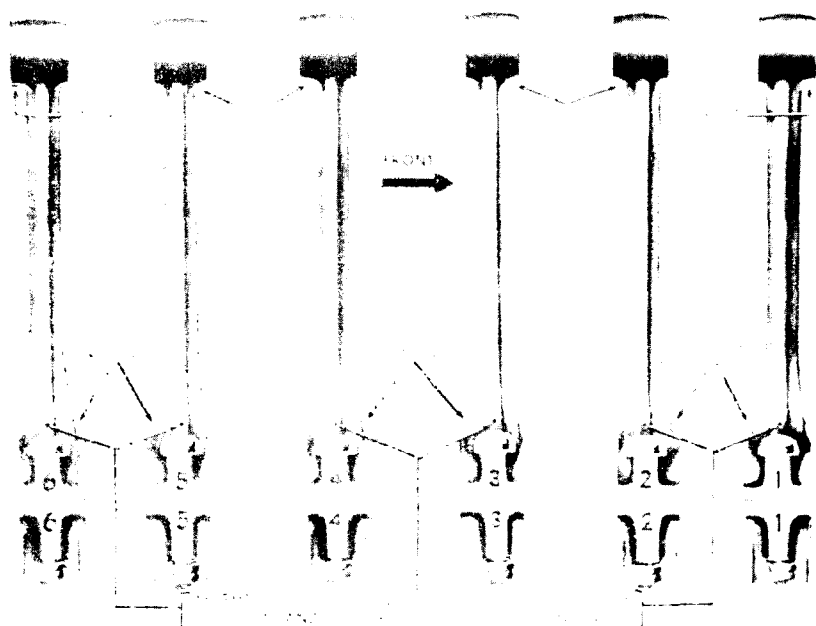

Figure 64. Connecting rod sequence.
f. Install Piston and Connecting Rod Assemblies. Coat the piston and rings with engine oil and space the ring gaps so that they are 90° apart. Install the piston ring compressor over the rings so that the flared edge of the compressor contacts the cylinder block. Install the piston in the cylinder with the oil hole in large end of the connecting rod toward the valve side of the engine. Connecting rods for numbers 1, 3, and 5 cylinders are offset in one direction and numbers 2, 4, and 6 are offset in the opposite direction. Each rod must, therefore, be installed in its original position, or if one or more new connecting rods are to be used, be sure each rod has the proper offset for the cylinder in which it is to be installed (fig. 64). Clean the bores of the connecting rods and the bearing caps thoroughly, install the bearing halves, and attach the connecting rods to the crankshaft using new lock washers. Tighten the nuts securing the bearing caps 45 to 50 pound-feet with a torque wrench.